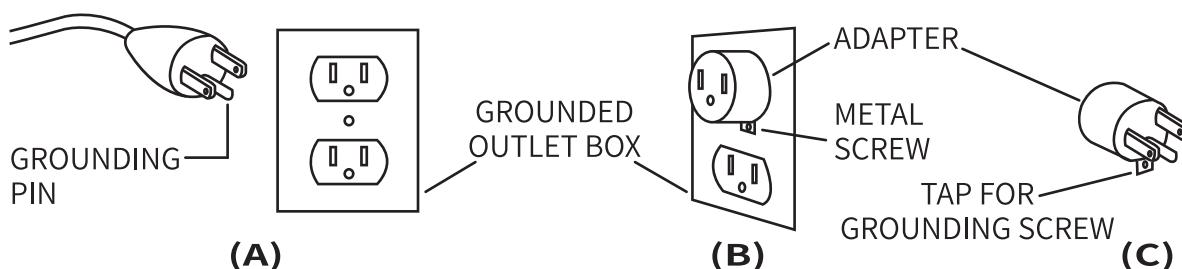

Figure 1.
2. This product is for use on a nominal 120 V circuit, and has a grounding plug that looks like the plug illustrated in sketch A in Figure 1. A temporary adapter, which looks like the adapter illustrated in sketches B and C, may be used to connect this plug to a 2-pole receptacle as shown in sketch B if a properly grounded outlet is not available. The temporary adapter should be used only until a properly grounded outlet (sketch A) can be installed by a qualified electrician. The green colored rigid ear, lug, and the like extending from the adapter must be connected to a permanent ground such as a properly grounded outlet box cover. Whenever the adapter is used, it must be held in place by the screw.